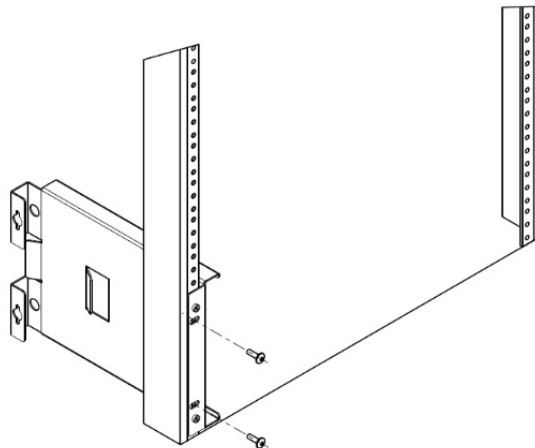

Figure 5
1. Separate the two mounting brackets in the Horizontal Mounting Kit. Using Mounting Bracket PN XBK-11333, two (2) Cage Nuts and two (2) 10-32 X 5/8" Truss Screws, install the cage nuts into the rack cabinet vertical rail where required. Mount the Bracket XBK-11333 in the Rack using the two screws and securely tighten the screws. (See Figure 5.).